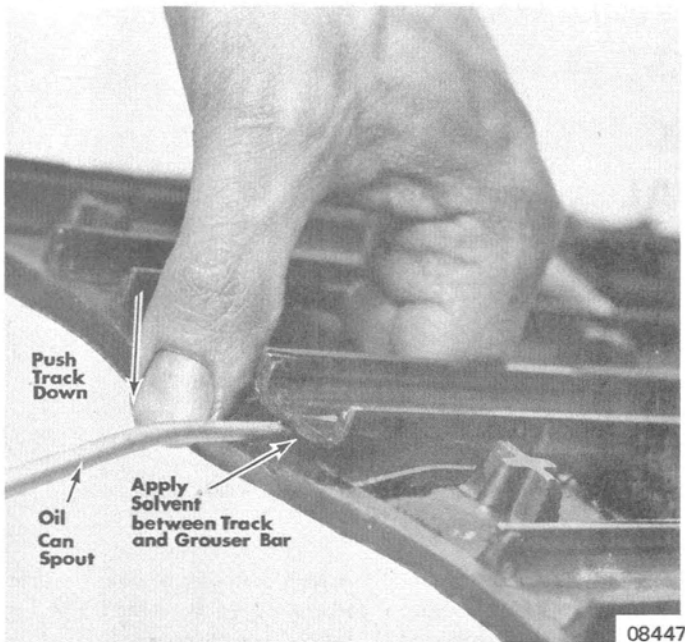

Figure 13. Typical Track Bar Removal
2. With an oil can or other suitable container, apply MEK (methyl ethyl ketone) or acetone between track and track bar (Figure 13) where cut was made.